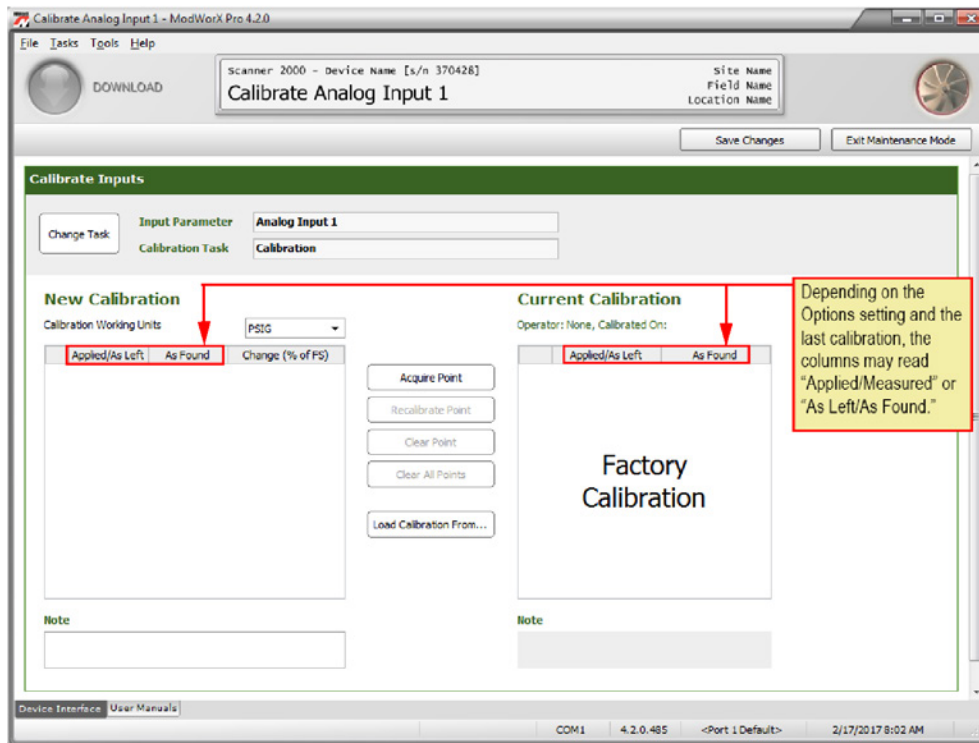

Figure 6.24
- Observe the calibration settings at the bottom of the screen (Figure 6.24, page 90). To calibrate the sensor, click on the blue **Calibrate** hyperlink in the Sensor Calibration section and follow the screen prompts.
- Observe the verification settings at the bottom of the screen (Figure 6.24). To verify the sensor's calibration, click on the blue **Verify** hyperlink and follow the screen prompts.